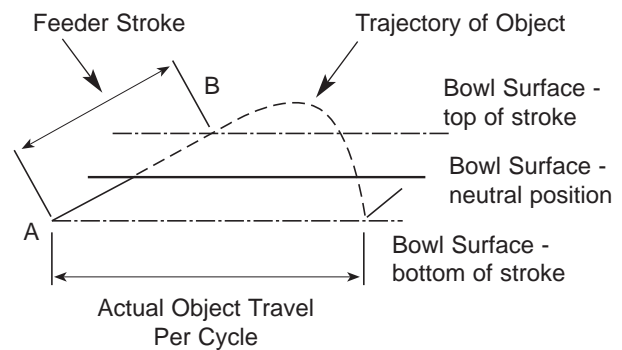

Figure 2 - Material Flow on Bowl Surface
Figure 2 illustrates the action of a part moving along the bowl surface. During one vibration cycle the bowl surface travels from point (A) to point (B) and back to point (A). The part continues to travel upwards on a trajectory as shown, coming to rest on the bowl surface at a position further forward.